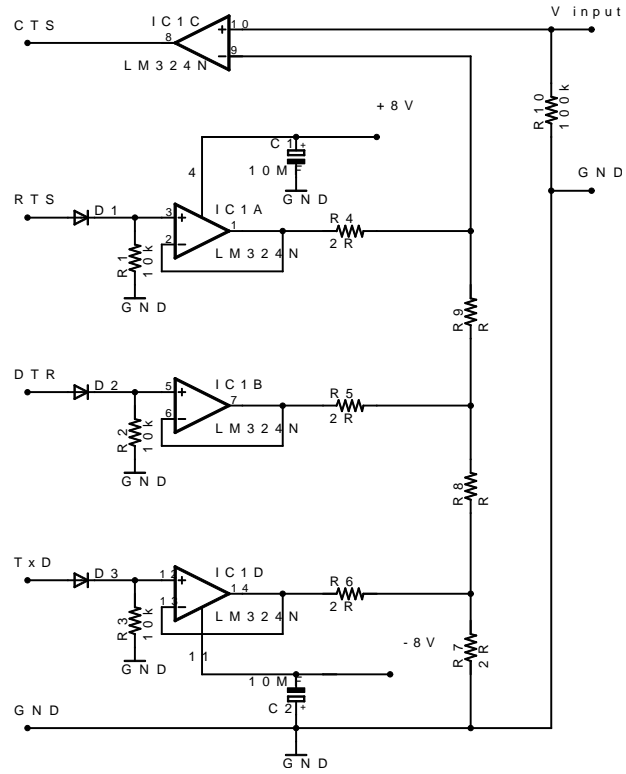

Figure 3: RS232 Successive Approximation ADC
1. Use the previously developed 3-bit D/A converter and change the output buffer into a comparator to make 3-bit successive approximation A/D converter as shown in Figure 3. Connect the input voltage to the non-inverting terminal of the comparator, DAC output to the inverting terminal, and the comparator output to one of the RS232 inputs, e.g. CTS.